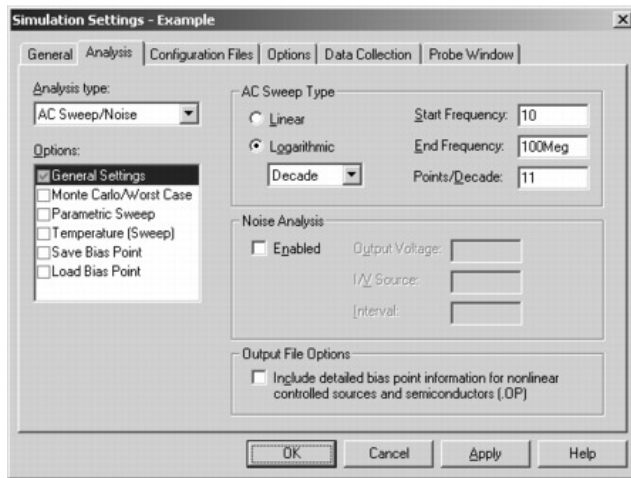

Figure 2-22 AC sweep and noise analysis simulation settings.
4. From the Analysis type list, select **AC Sweep/Noise** and enter the settings shown in Figure 2-22.